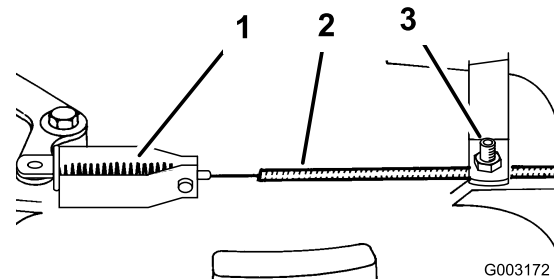

Figure 34
- Loosen the cable clamp screw until the brake cable conduit slides (Figure 34).